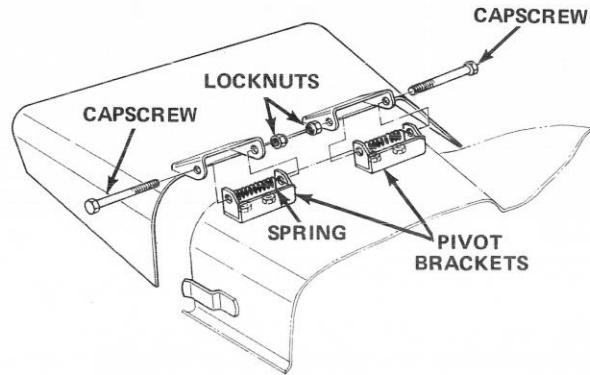

Figure 33
2. Remove two capscrews, locknuts and springs securing deflector mounts to pivot brackets (Fig. 33).
3. To remove the pivot brackets, remove carriage bolts, lockwashers and nuts (Fig. 33).